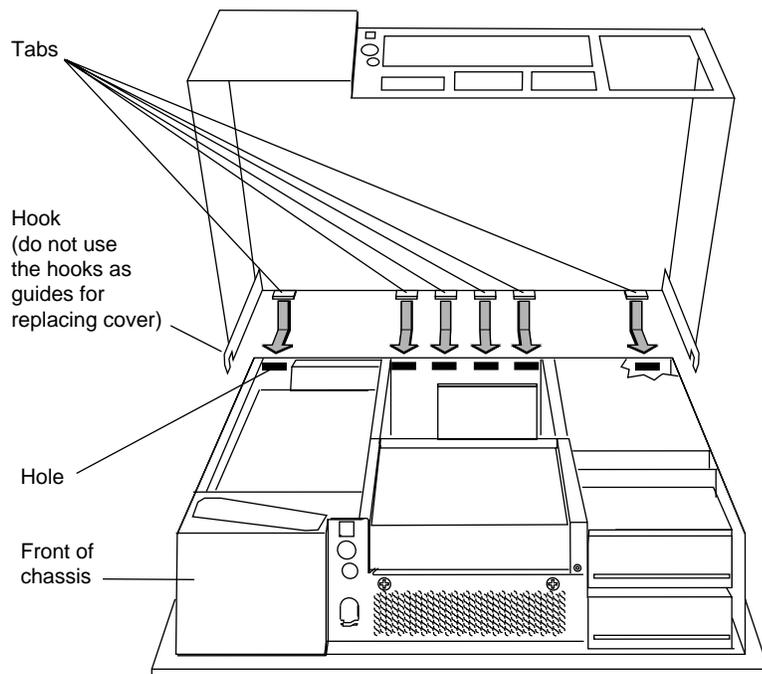

Figure 1-14 Replacing the Cover
1. Locate the tabs on the inside and back of the top cover and the holes on the back of the workstation. See Figure 1-14.